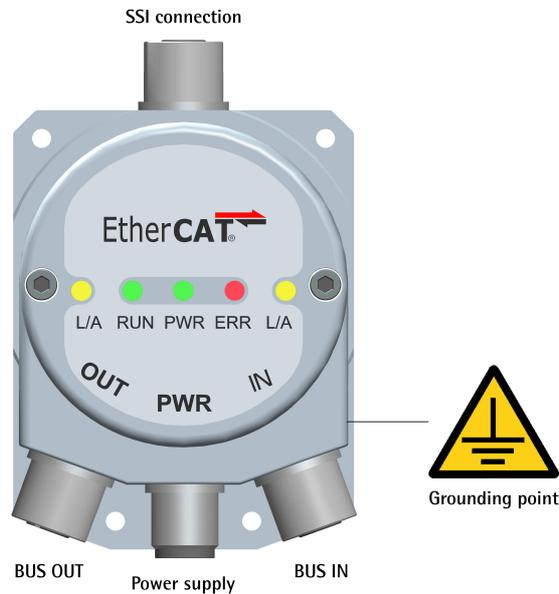

Figure 4
**4.2 SSI connector (Figure 4)**
**4.3 EtherCAT interface and power supply connectors (Figure 4)**
device. We suggest using the ground point provided in the cap (see Figure 4, use 1 TCEI M3 x 6 cylindrical head screw with 2 tooth lock washers).